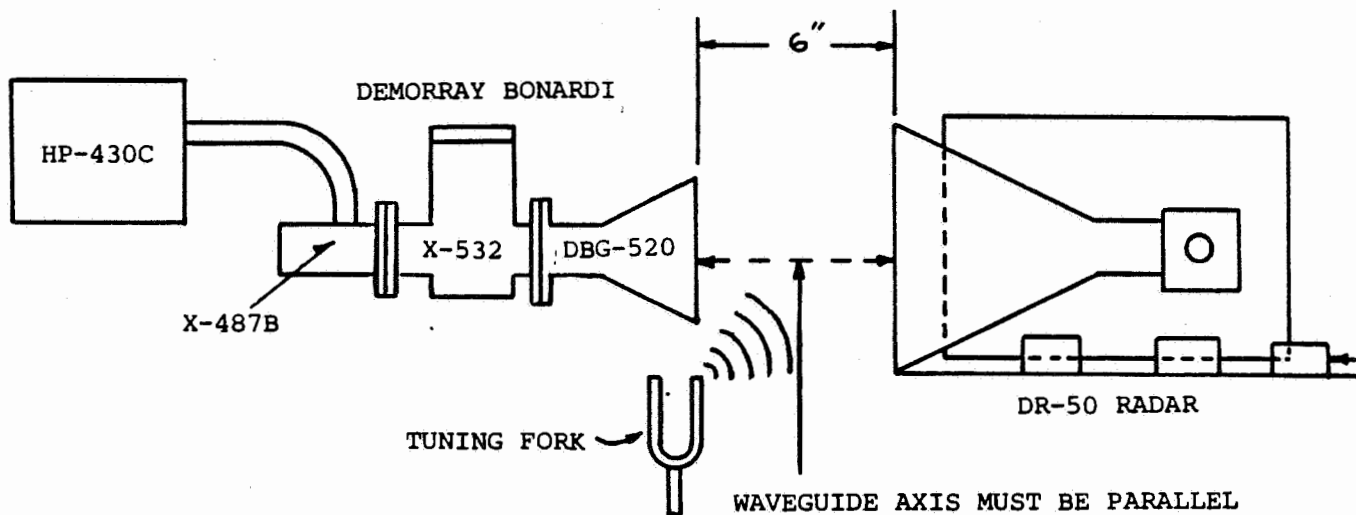

Figure 3-2. Frequency Measuring Test, Shop Set-Up
1. Arrange a test setup as per Fig. 3.2	1. - -